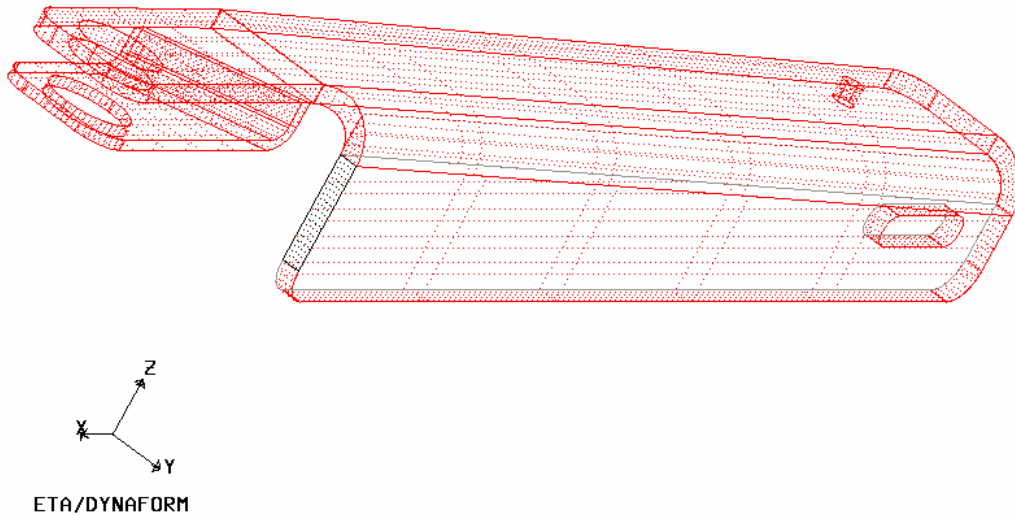

Figure 5.6.7 Select Seed Thickness Surface
The following example creates middle surface of different thickness. Once this function is selected, the SELECT SURFACE window appears and enables the user to select a seed surface at the part's thickness. See Figure 5.6.7.
1. Once the function is selected, the SELECT SURFACE window appears to prompt the user to select a seed surface for the part thickness. Select a surface at the part thickness. Refer to Figure 5.6.7.